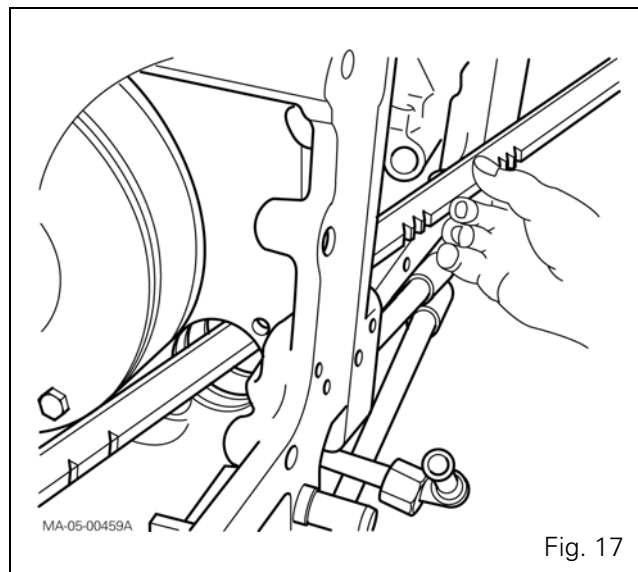

Fig. 17
61. If necessary, remove the locking stop (18).
62. Take the selector rail out through the selector cover plate opening by passing it through the Hare / Tortoise cylinder bore (Fig. 17).
64. Refit the selector rail through the selector cover plate opening and the Hare / Tortoise cylinder bore (Fig. 17).